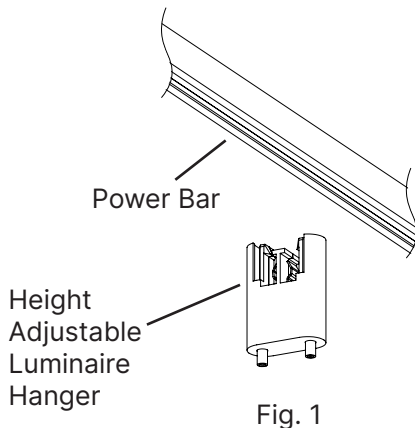
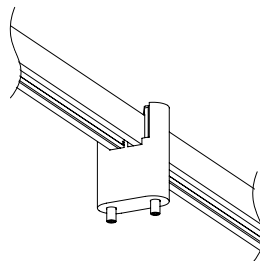

Fig. 1
Fig. 2
1. Align **Height Adjustable Luminaire Hanger** with **Power Bar** (Fig. 1) and press up on the bottom of the Hanger, while pressing down firmly on the top of the Power Bars until the Hanger clicks into place. (Fig. 2)